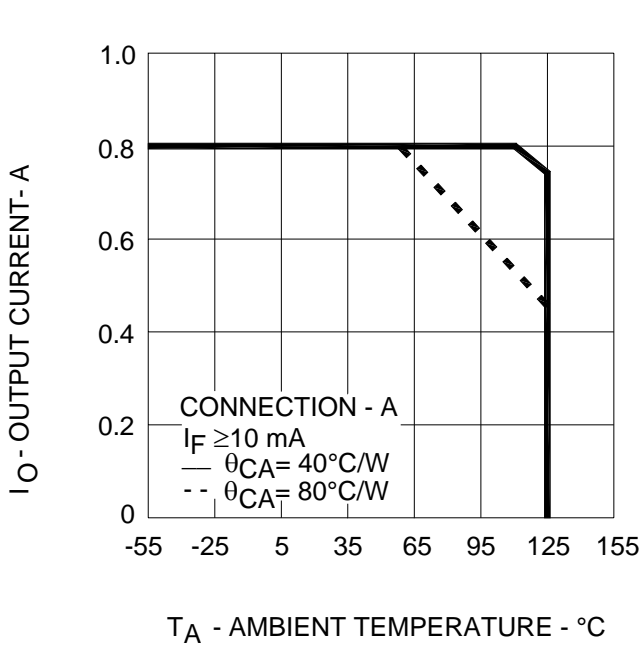

Figure 3. Maximum Average Output Current Rating vs. Ambient Temperature.
2. For rating, see Figure 5. The output power  $P_D$  rating curve is obtained when the part is handling the maximum average output current  $I_O$  as shown in Figure 3.